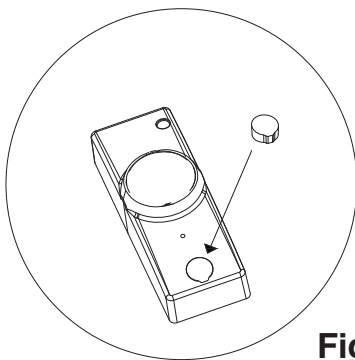

Fig. 4
4. Secure the c-Max™ node in place by fastening the included M3 button head screw with a Hex (Allen) key (not included). Once the screw is secured, cover it with the included silicone cap. (Fig. 4 - drawing is for illustration only, actual screw may look different.)